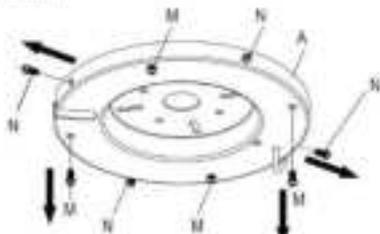

Figure 1
- There are 8 pre-installed screws (4 side - N; 4 bottom - M) on the mounting plate (A).
- Remove 2pcs opposite screws from the side and bottom of mounting plate(A). Figure 1.